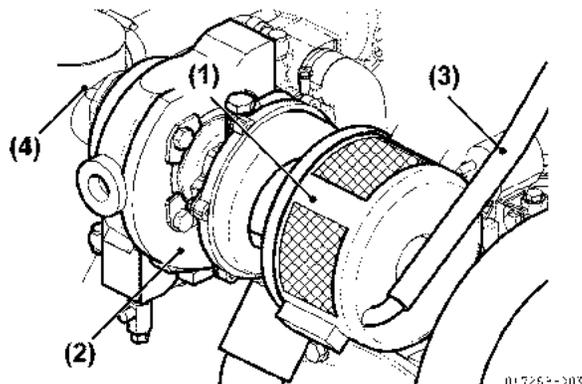

Figure 5-192
- 58. Install the turbocharger (for 4JH4-TE and 4JH4-HTE) (Figure 5-192).